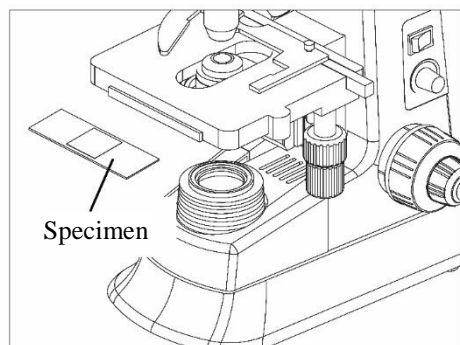
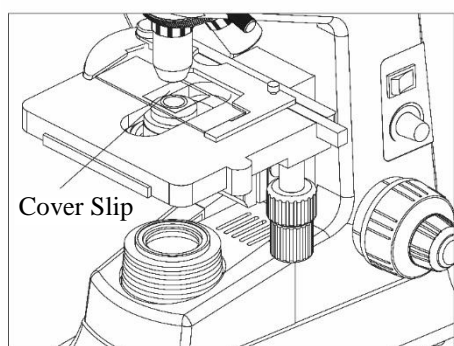

Fig. 19
Fig. 20
4.2.2. Placing the specimen (Fig. 19, Fig. 20)